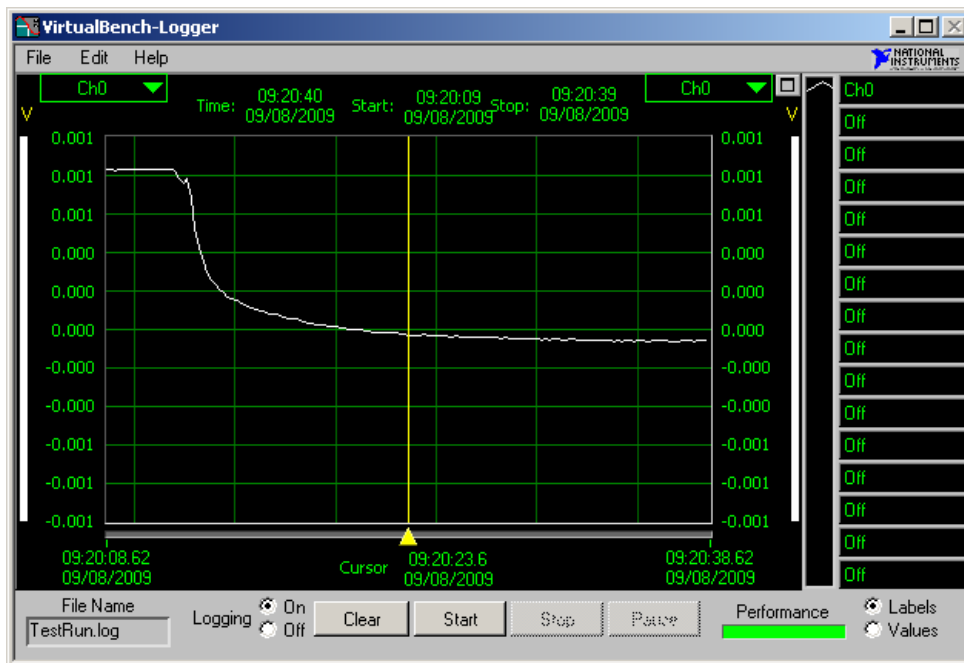

Figure 7. The Virtual Bench-Logger program
The dynamic calibration will utilize the Virtual Bench Logger program of Figure 7. The Virtual Bench Logger will sample the thermocouple voltage repeatedly after you specify the desired sampling rate and total sampling time. The VBLogger is intended to operate over longer time periods compared to “scope” type displays such as VBScope (which will be used in Experiment 2).
- To run the logger without saving data, just click the START button with the Logging Off check box setting. To log data (save to file) enable logging by checking the Logging ON check box as shown in Figure 7. Then click the START button. The next 30 seconds of data (150 points at 0.20 second intervals) will be logged to the data file you specified.
4. Click Start to begin data logging and then quickly move the thermocouple probe from the hot water cup to the ice water cup. Expect a transient like Figure 7.